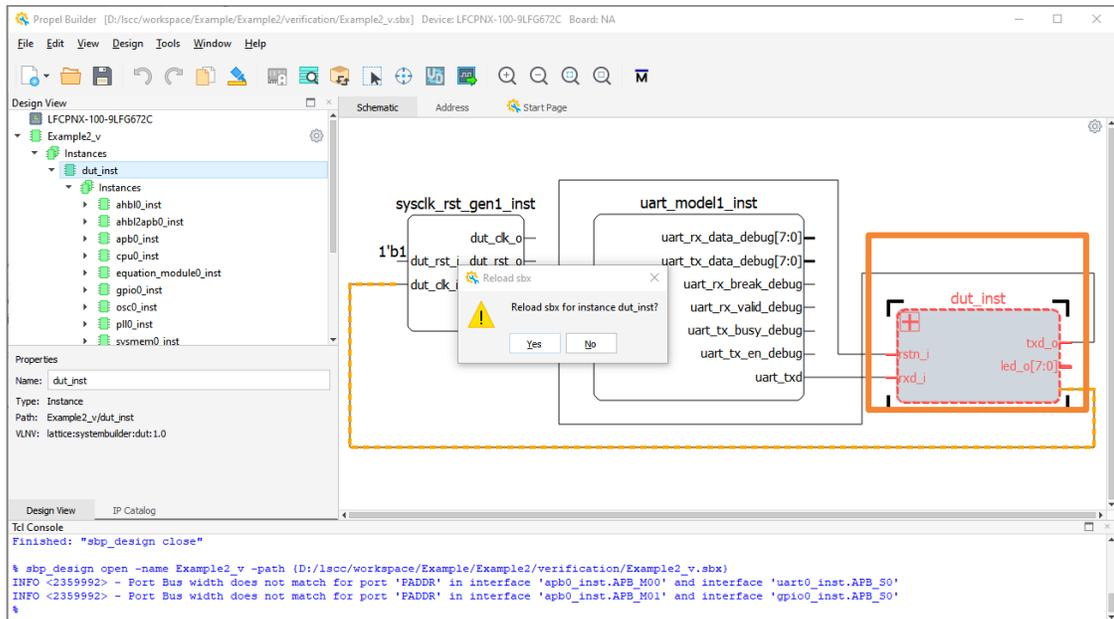

Figure 2.148. Reload dut_inst after Each SoC Project Design Change
- c. **Reload** dut_inst to synchronize the SoC design change to verification project. Double click on dut_inst to do the reload (Figure 2.148).